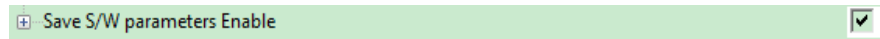

Figure 26
- Save S/W parameters Enable: Click to enable “Store parameters”. The Bluetooth parameters in “Parameter Setting 3~11” will be stored to the BLE Flash memory as shown in Figure 26. The premise is that the corresponding setting options are enabled. The BLE Bluetooth parameters setup using commands will be temporarily stored in the RAM. After the option is enabled, the Bluetooth parameters in the RAM will be stored in the Flash memory. The BLE will automatically use the Bluetooth parameters in the Flash memory after a power-on reset occurs.